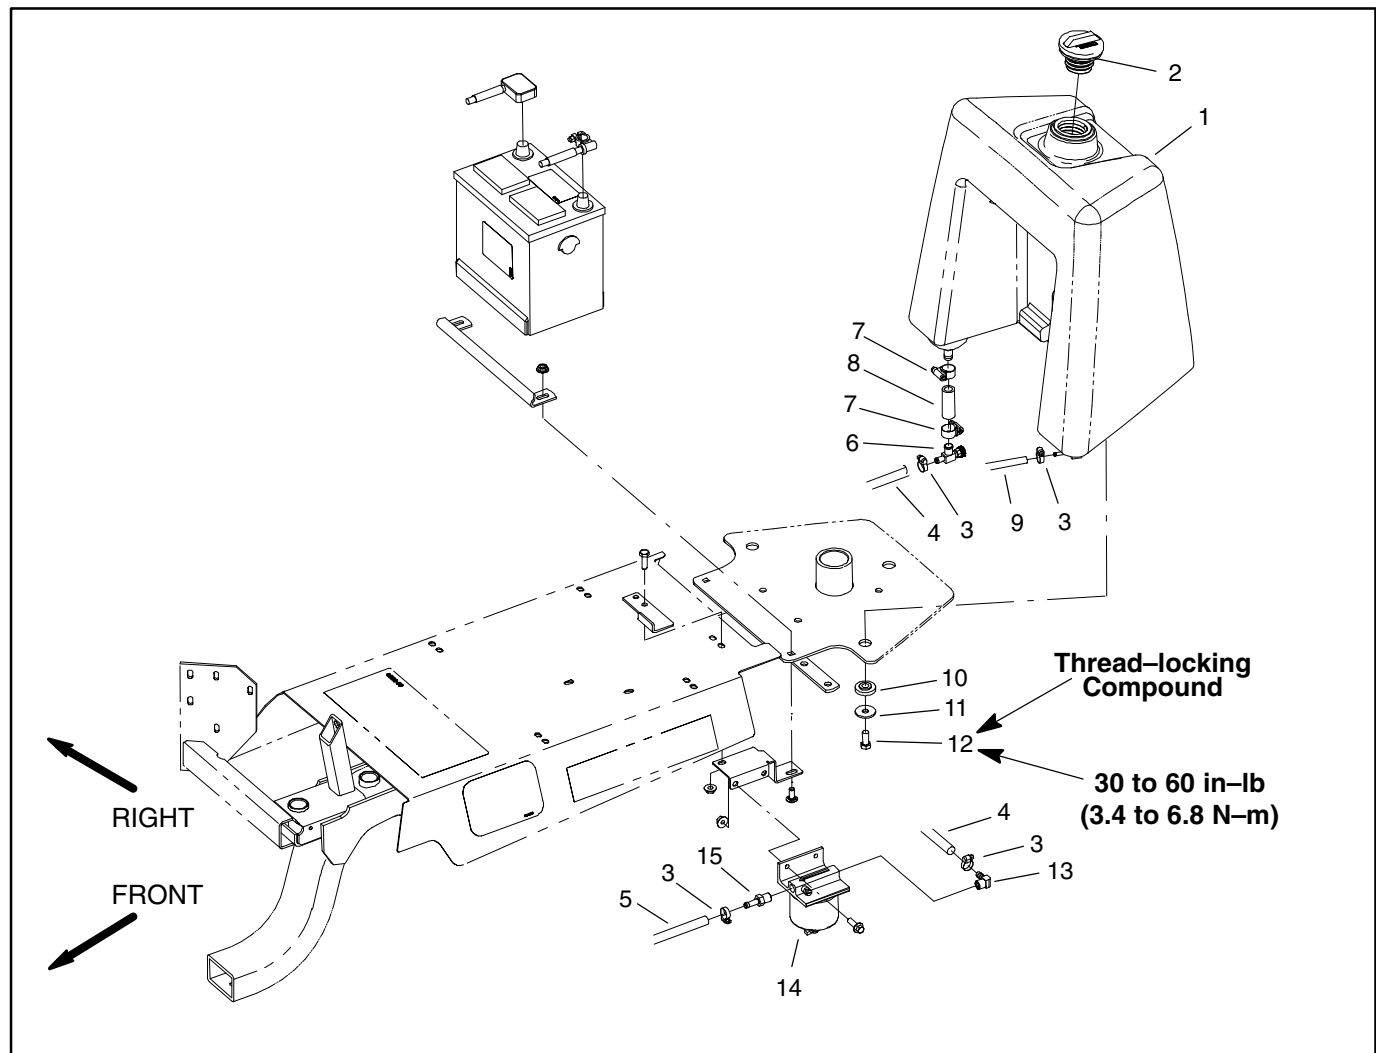

Figure 6
5. Remove fuel tank using Figure 6 as a guide.
1. Install fuel tank to frame using Figure 6 as a guide. Apply thread-locking compound to fuel tank cap screws and torque screws from 30 to 60 in-lb (3.4 to 6.8 N-m).